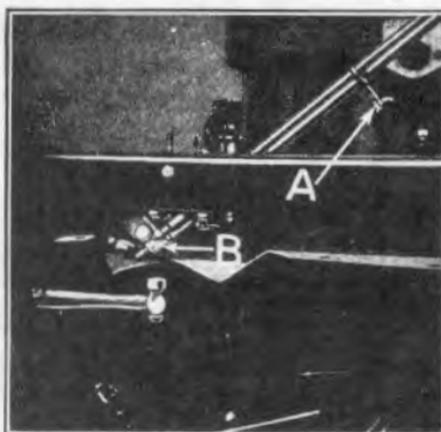

Fig. 98
- 122 **Connect carburetor pull rod to throttle rod lever** by inserting end of carburetor pull rod through throttle rod lever (See "A" Fig. 98) and locking pull rod in position by inserting a cotter key through hole in end of rod.